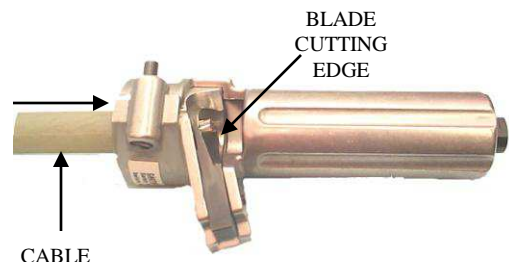

Fig. 4
Step 4. (Fig. 4) To strip the insulation, insert the cable into the WS5 until it comes in contact with cutting edge of the blade. Always check the blade position with respect to the conductor, before stripping the insulation.